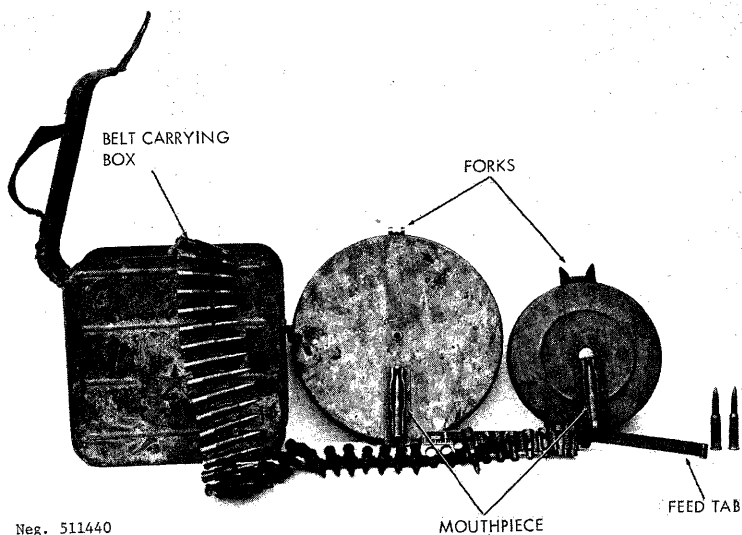

Figure 141. Degtyarev belts and drums.
2-layer pan magazines. The RP-46 normally is fed from a 250-round, nondisintegrating, metallic-link belt; however, it can also be readily converted to use 47-round pan magazines (fig 141). All of these Degtyarev machineguns fire the 7.62x54R long rimmed cartridge (sec VI).
c. The DP, DPM, and DTM machineguns each has a sliding dust cover over the feed opening on top of their receivers; if this is closed, slide it forward to open. Engage the fork (fig 141) at the front of the magazine with the "T" lug (fig 135) on top of the barrel jacket; then seat the rear of the magazine into place in front of the rear sight. Strike the top rear of the magazine with the side of a closed fist to insure that the magazine is fully seated. Pull the operating handle (fig 135) fully to the rear.